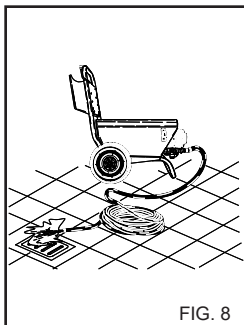

FIG. 8
After using a detergent, the detergent intake circuit must be flushed out with clean water (fig. 8).
Impurities could block the nozzle and cause malfunction (Fig. 8).
4) After using with detergent, flush out the intake circuit; place the detergent suction hose (fig. 8) in a tank of clean water and let the pump run for 1 minute with the dosing tap turned fully on and the lance in detergent delivery condition.